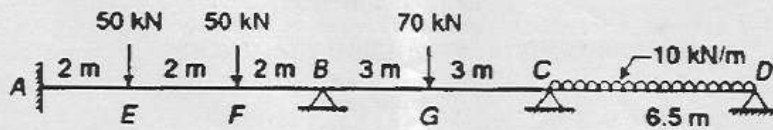

Fig. 2
- (b) Design the continuous beam with the service load as shown in the Fig.2. The load factor may be assumed as 1.7. Provide a uniform cross section throughout the beam.